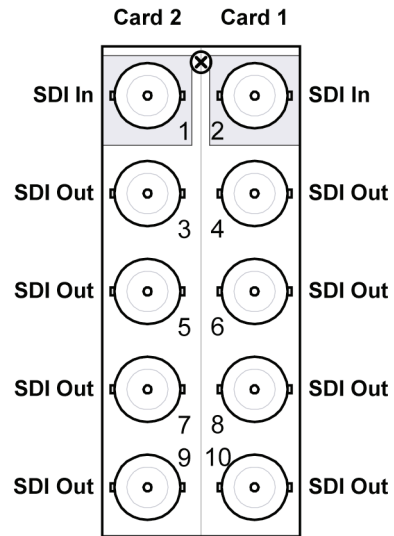

Figure 5. Cable Connections for the DFR-8320 frames with the R2S-8203 Split Rear Module
- **R2S-8203 Split Rear Module** — Each card occupies one slot and provides four outputs. Note that each rear module provides connections for two cards. Refer to **Figure 5**.